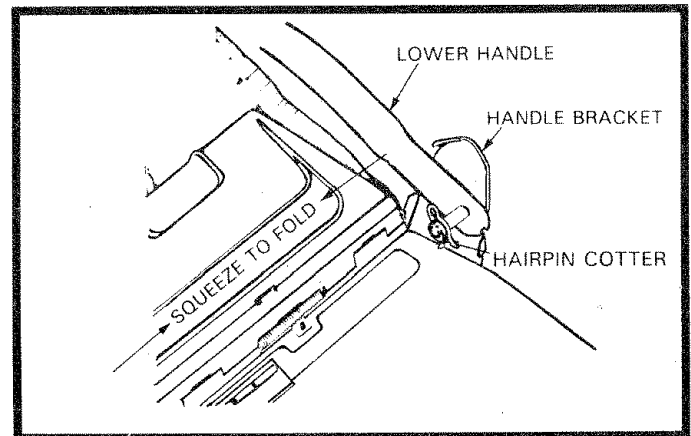

FIG. 20
- To fold, squeeze the bottom ends of the lower handle toward each other until the lower handle clears the handle bracket, then move handle forward (See Fig. 20).